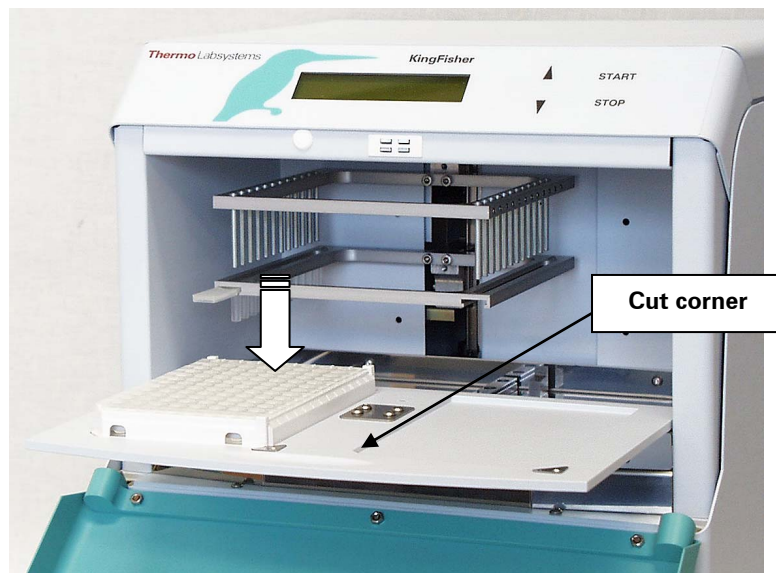
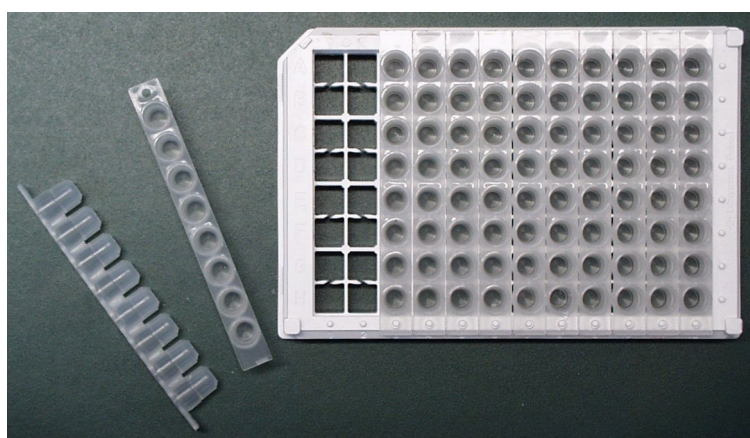

Fig. 6.2 Loading the plate carrier
Fig. 6.5 Plate containing microstrips specially designed for the KingFisher
- First of all slide the plate carrier out (*Fig. 6.2*).
- Load only maximum two special plates (*Fig. 6.5*) onto the plate carrier for processing at a time. The plates have to be positioned so that the cut corners face left down (*Fig. 6.2*). They also have to be in their places. Slide the plate carrier fully back in.